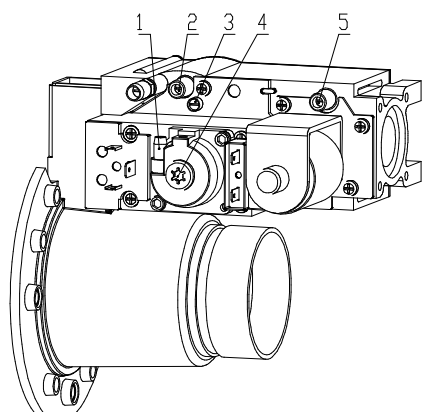

Fig. 4.2.1 – Gas valve by Honeywell with mixer
When the boiler was installed and properly connected, check the CO₂ value (read it from the exhaust gas analyzer) and compare to the values shown in the table, according to the type of operated gas. If you need to adjust the device, it is necessary to make correction by screw for maximum flow regulation marked as **3** on Fig. 4.2.1 or 4.2.2.
- After starting the boiler measure the gas inlet pressure on the measuring point (Fig. 4.2.1. or 4.2.2., item 5.). The values of pressure depending on the type of gas are shown in Table 4.3.1.
- Remove the cap from the measuring point number 4 (Fig.4.2.1. or
- Use the adjusting screw number 4 (Fig.4.2.1. or 4.2.2.) set the gas flow to obtain the required composition of the flue gas listed in Table 4.3.1
- After starting the boiler measure the gas inlet pressure on the measuring point (Fig. 4.2.1. or 4.2.2., item 5.) The values of pressure depending on the type of gas are shown in Table 4.3.1.